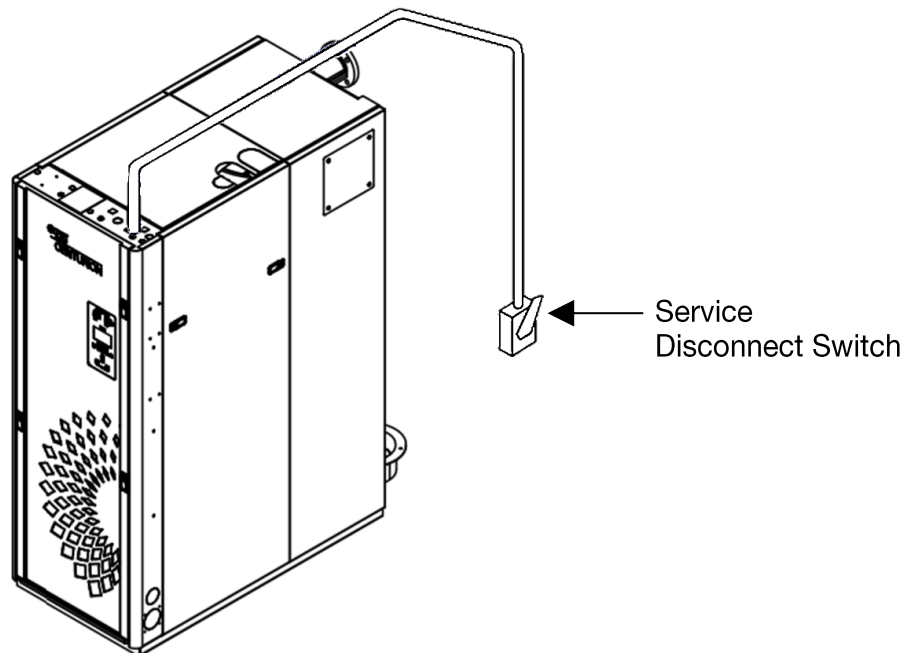

Figure 2-1: Service Disconnect Switch Typical Location
- The service disconnect switch should be mounted near the unit (Figure 2-1).